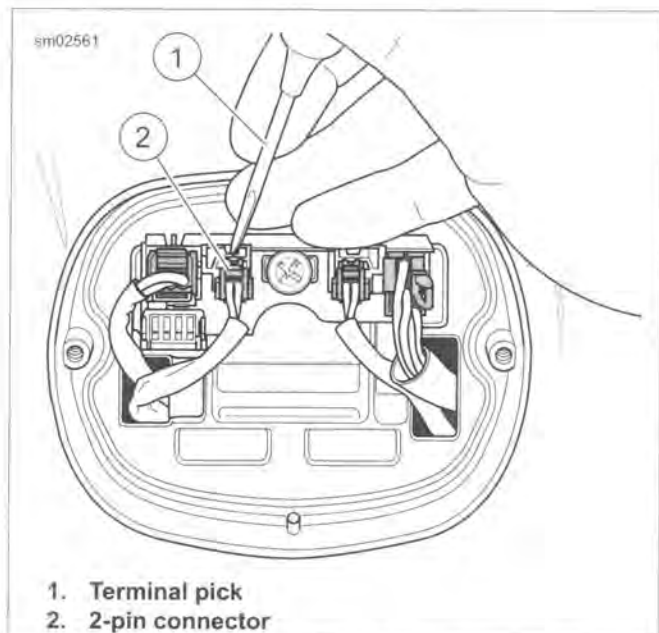

Figure 7-37. Removing 2-Pin Connectors
3. See Figure 7-37. Using a terminal pick (1) or small screwdriver, press locking tabs. Remove two 2-pin turn signal connectors (2) and 6-pin Power In connector from pin housing.